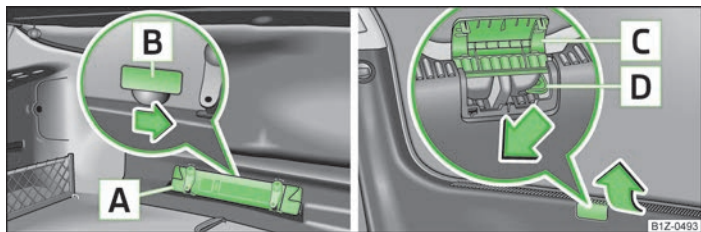

Fig. 17 Emergency unlocking of the boot lid
- Remove the warning triangle **A** » Fig. 17.
- Press on the level in the direction of arrow » Fig. 17, the boot lid is unlocked.
- Pull up the panel **C** » Fig. 17.